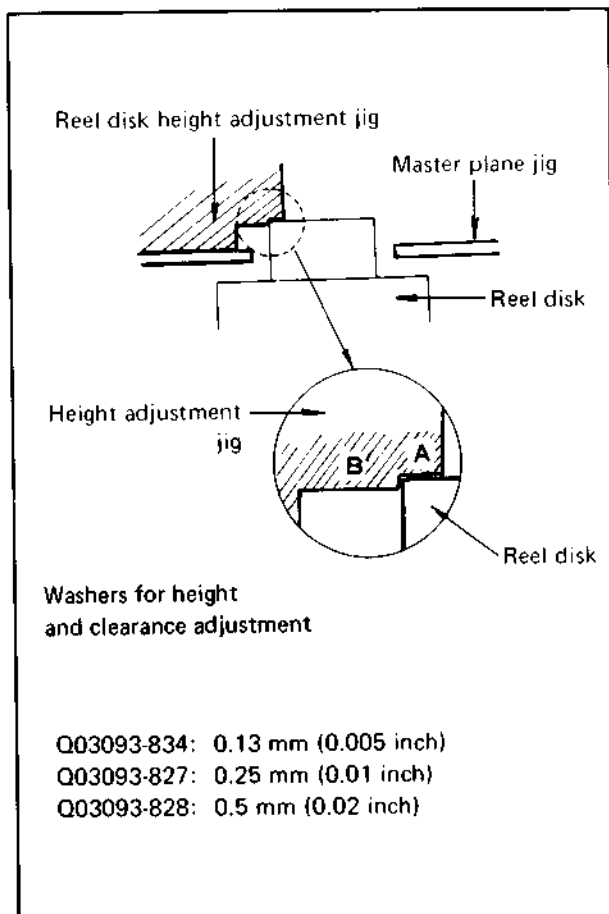

Fig. 5-8 Reel disk height adjustment
3. Place the height adjustment jig on the master plane jig, check that the reel disk height is lower than area "A" and higher than area "B" as shown in Fig. 5-8.
4. To adjust the height, add or remove one or more of the different thickness washers listed in Fig. 5-8.